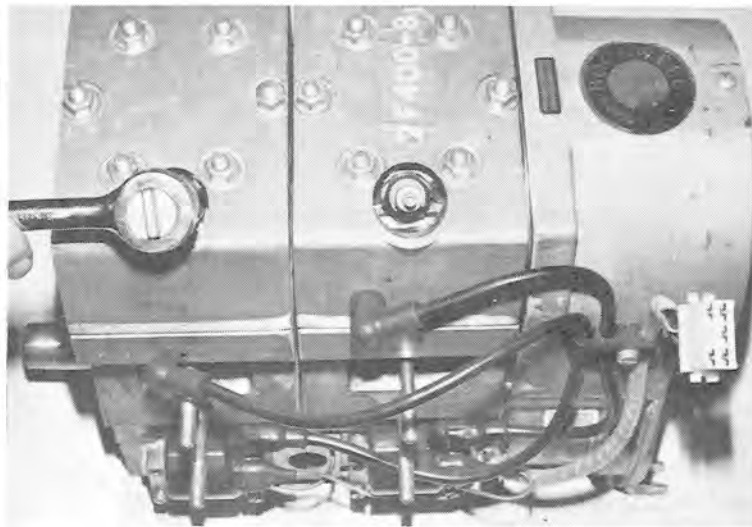

FIG. 1-21
G. Remove spark plugs with spark plug wrench. (See Fig. 1-21.)